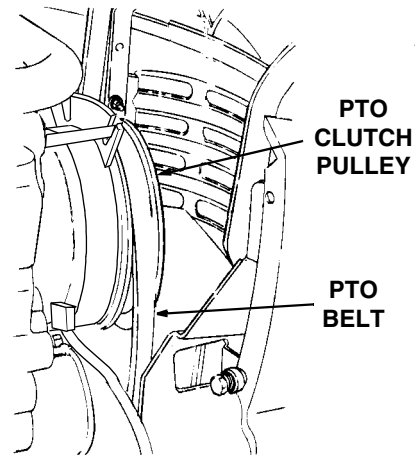

Figure 37
13. Install the forward end of the PTO belt on the PTO clutch pulley by passing the belt upward inside the front of the tractor frame. Ensure that the narrow side of the PTO belt engages the groove of the clutch pulley (Refer to Figure 37).